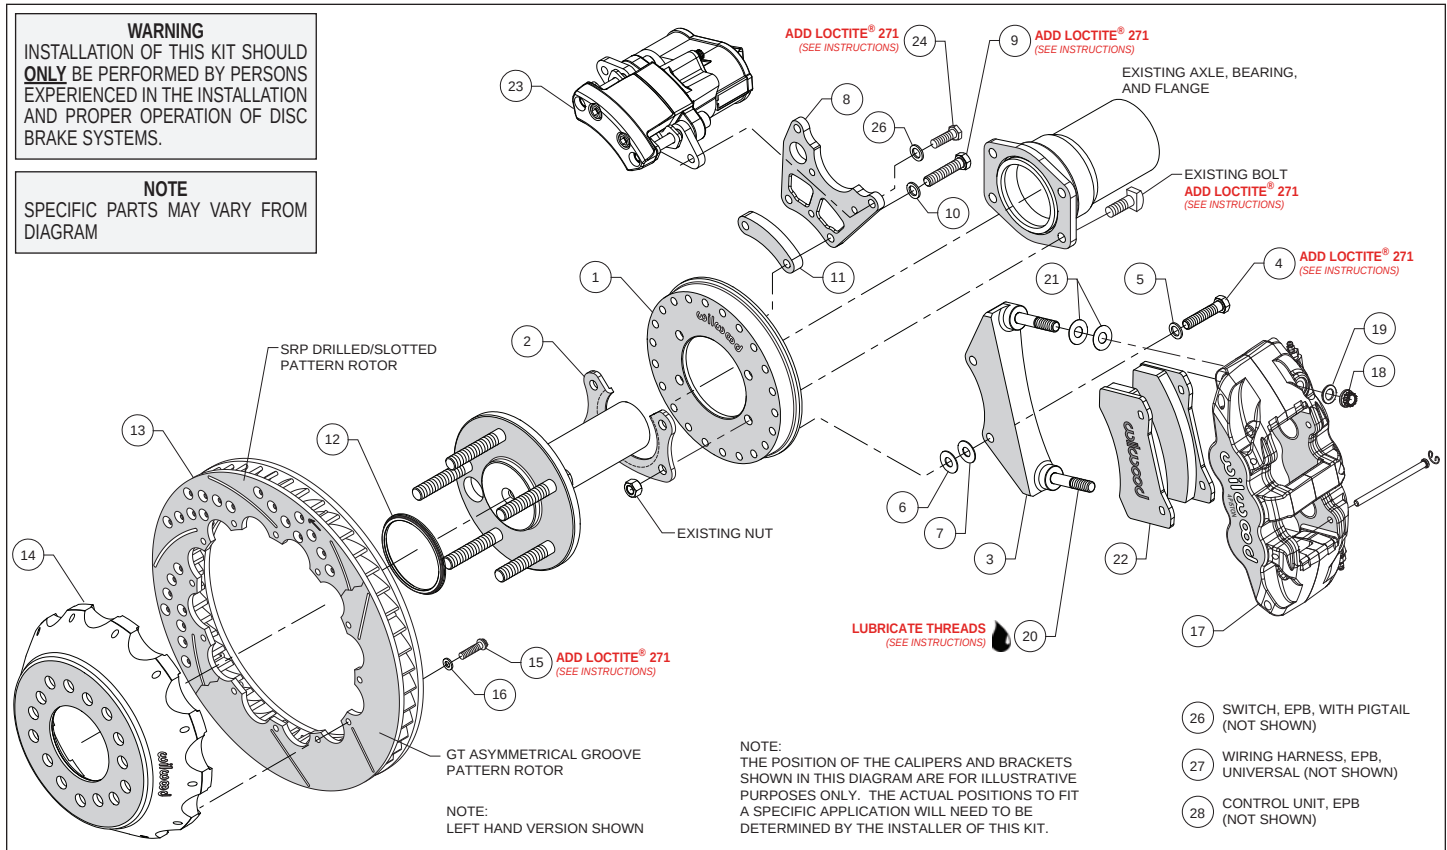

Figure 1. Typical Installation Configuration
(numbers in parenthesis refer to the parts list, and Figure 1 on the preceding pages):
- Orient the backing plate (1) as shown in Figure 1 and Photo 1, and slide it onto the axle housing flange. Ensure the backing plate fits flush against the axle housing flange. Reinstall the axle into the axle housing.
- Install the bearing retainer (2) with the opening pointing upward and the lip facing inward (toward the bearing), as shown in Figures 1 and 4, and Photo 2. Secure retainer and backing plate to the axle housing flange using the Original Equipment Manufacturer (OEM) bolts and nuts, Figure 1 and Photo 3. Apply red *Loctite*® 271 to the OEM bolt threads and torque to OEM specifications.
- Start by determining the best location for the service caliper (17). This caliper is usually mounted in the 3:00 or 9:00 o'clock position, but may be rotated up or down approximately 45 degrees and still allow for proper bleeding, Photo 4. Orient the service caliper bracket (3) as shown in Figure 1 and Photo 5, and install to the backing plate (1) in the desired location using bolts (4) and washers (5). Temporarily tighten bolts. Next, mount the service caliper onto the bracket. Lubricate the caliper mounting studs (20) with lightweight oil. Mount the service caliper using lock nuts (18) and washers (19), Figure 1. Temporarily tighten the lock nuts. Check that the caliper (including inlet fitting and hose) has sufficient clearance to all surrounding components through the full suspension travel. Relocate the caliper/bracket on the backing plate as needed to ensure proper clearance is achieved.
- Determine the best location for the EPB caliper (23). **NOTE:** *The EPB caliper motor extends farther inboard than the service caliper and therefore needs additional consideration when determining a mounting location with sufficient clearance.* In the example application shown in Photo 6, the EPB caliper has sufficient inboard clearance to the leaf spring. However, if the EPB caliper were mounted closer to the 12:00 o'clock position, the inner body of the vehicle would hit the caliper during full compression of the suspension.